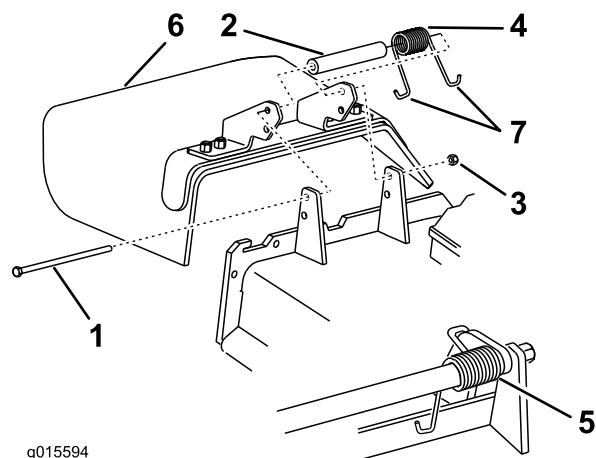

Figure 106
1. Remove the locknut, the bolt, the spring, and the spacer holding the deflector to the pivot brackets (Figure 106).
2. Remove the damaged or worn grass deflector (Figure 106).
Note: Make sure that the J-end of the spring is installed behind the deck edge before installing the bolt as shown in Figure 106.
6. Place the J-hook end of the spring around the grass deflector (Figure 106).